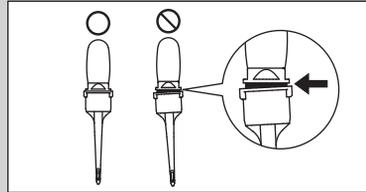

Fig. 9
- Securely insert the Tip all the way by referring to the Fig. 9. If the Tip is inserted incorrectly, the Nozzle Tip will come off and accidental ingestion may result.